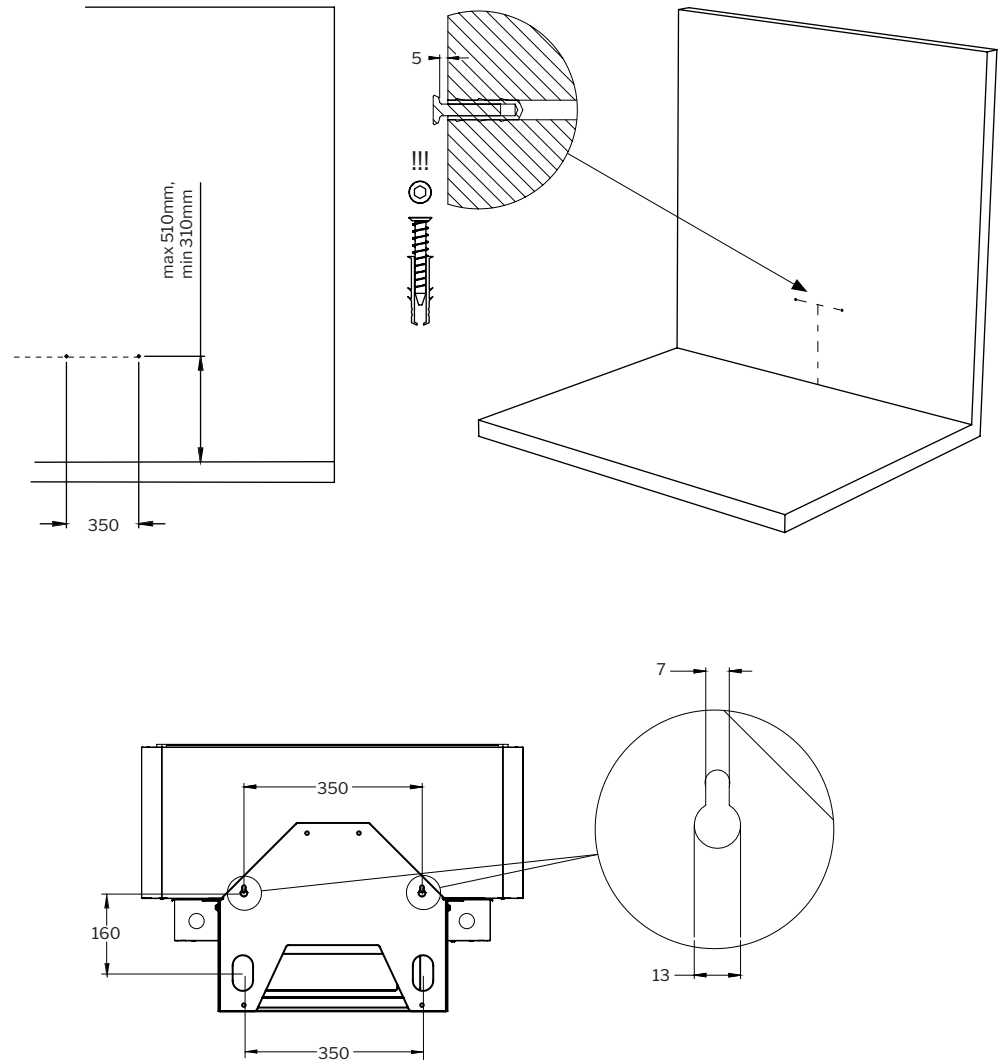

Figure 3.3: Installing bolts for middle mounting holes
- 3.2.2** Turn the bolts in the middle fixing holes of the wall leaving them unturned by 5 mm (**Figure 3.3**).